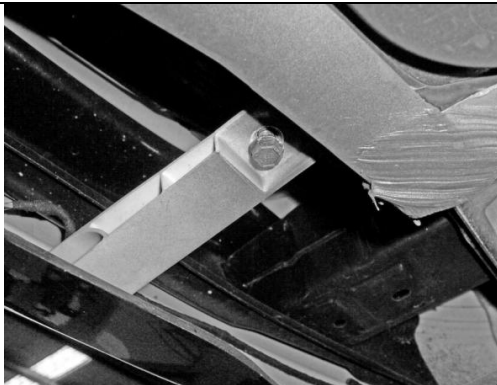

Figure 4 – Remove M10 bolts x 2.
4. Remove M10 bolts x 2 from the centre section, underneath the bumper. Refer to Figure 4.